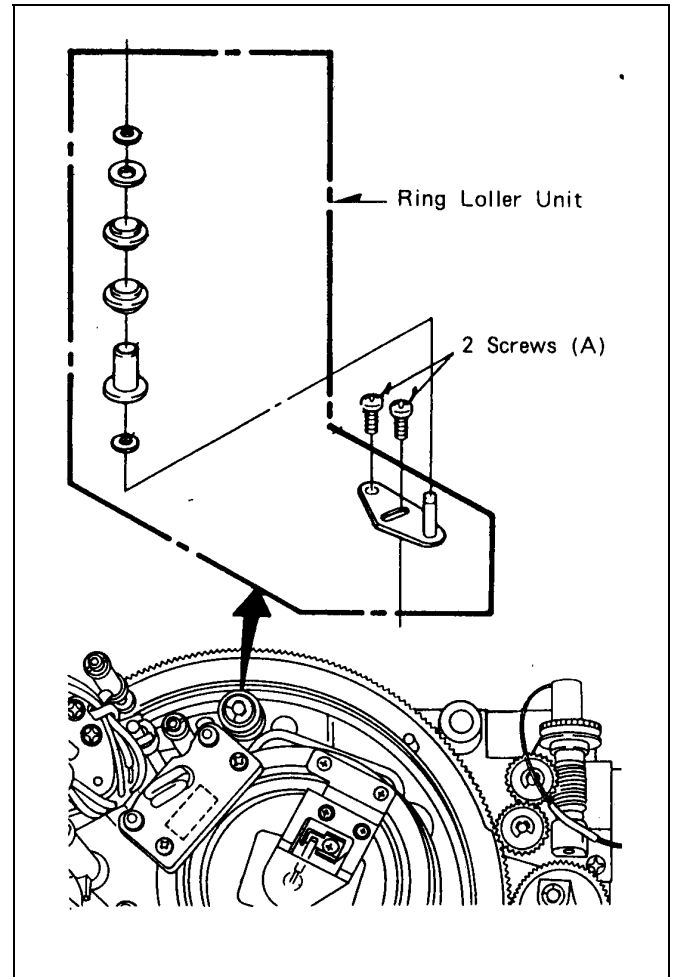

Figure 7-20-1 Ring Roller Unit Removal
1. Unscrew 2 screws (A) and remove Ring Roller Unit as shown in figure 7-20-1.
1. Install Ring Roller Unit and tighten 2 screws (A) as shown in figure 7-20-1.